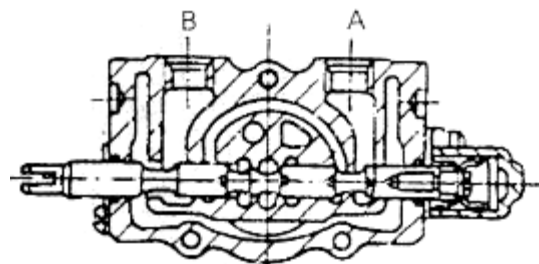

Fig 7-4
(3) Pull-out Spool Valve (Fig 7-4)